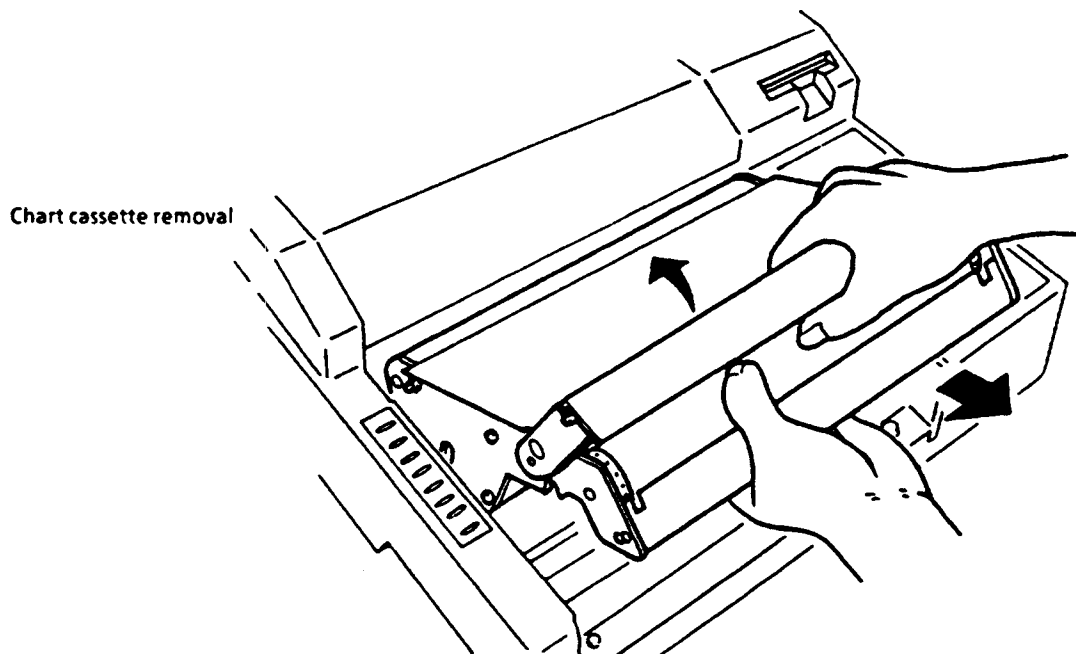

Figure 6.1
- (1) Lift the metal chart holder fitting at the front section as shown in Figure 6.1.
- (2) While lifting the metal chart holder fitting, lift the chart tray slantly and pull it to remove from the recorder.
- (3) Move the printer carriage to the extreme left, and all pens on the pen carriages to the extreme right.
- (2) Lift the metal chart holder fitting at the front position and remove the chart tray from the recorder (See Figures. 6.1).
- (2) Lift the metal chart holder fitting at the front section of the recorder to remove the chart tray (See Figure 6.1).
- (3) Remove the metal chart holder fitting at the rear section (when the roll chart is used, this is not used)
1. Remove the chart cassette (See Figure 6.1)